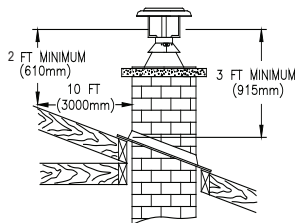

Figure 1
4. The chimney shall extend at least 3 ft (915 mm) above its point of contact with the roof and at least 2 ft (10 mm) higher than any wall, roof or adjacent building within 10 ft (3 m) of it (fig. 1).